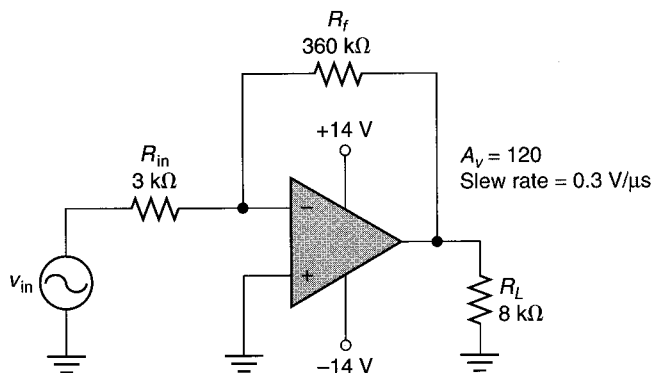

FIGURE 15.55
8. Determine the maximum allowable peak-to-peak input voltage for the amplifier in Figure 15.55.
10. The amplifier in Figure 15.55 has an output offset voltage of 960 mV. Determine the input offset voltage for the circuit.
12. Determine the maximum operating frequency for the amplifier in Figure 15.55. Assume that the circuit has a 40 mVPP input signal.